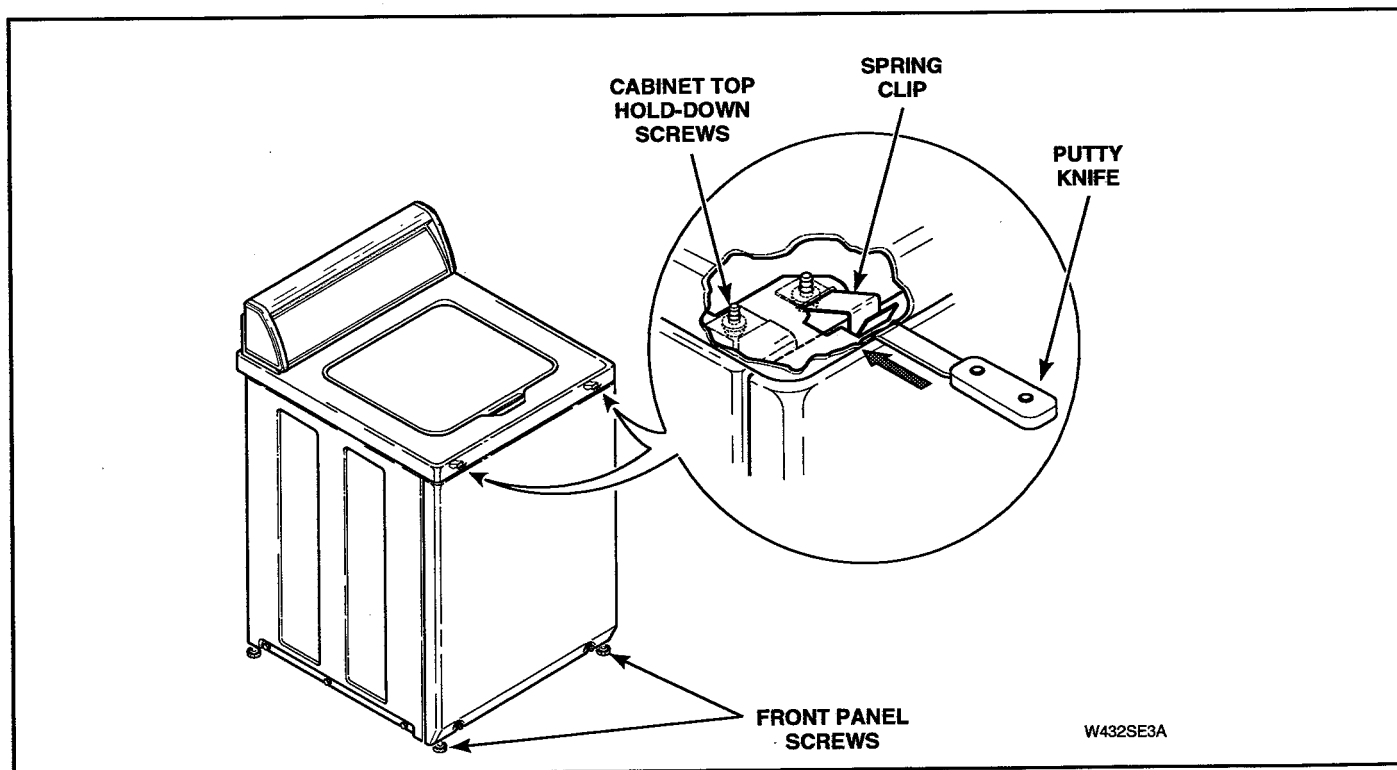

Figure 5-16
NOTE: Top edge of front panel is held in place by two spring clips located on bottom flange of cabinet top. See Figure 5-16.
- Insert putty knife between cabinet top and top edge of front panel (approximately three inches in from side). See Figure 5-16.
- a. Insert putty knife between cabinet top and top edge of front panel (approximately three inches in from side). See Figure 5-16.